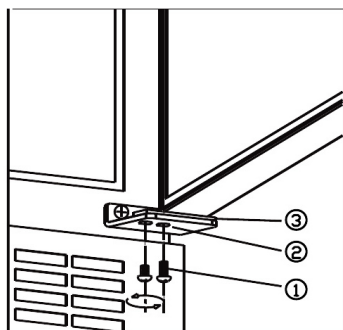

fig. 8.1
- Montera loss skruvarna (1) STÖTTA UPP DÖRREN Se fig. 8.1